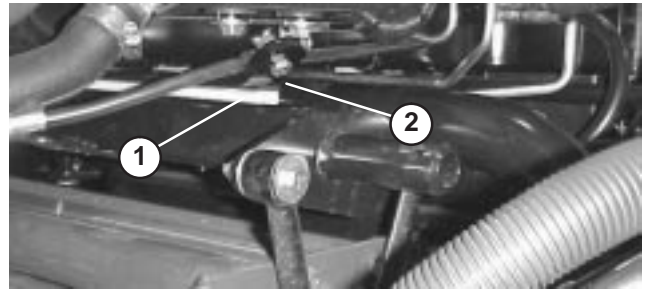
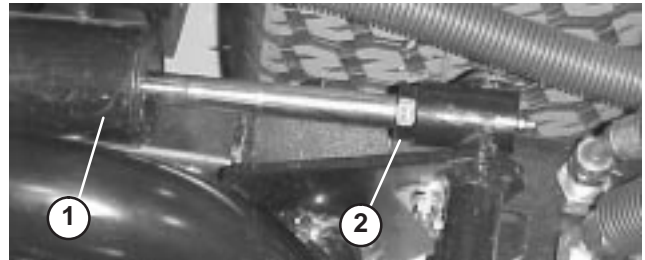

Figure 27
Figure 28
3. Start engine, raise lift arms and check to make sure clearance between wear strap on top of rear cutting unit wear bar and bumper strap is .020” – .100” (Fig. 27). If clearance is not in this range, adjust rear cylinder to attain clearance. To adjust cylinder, lower the cutting units and back off the jam nut on the cylinder (Fig. 28). Grasp cylinder rod close to the nut with a pliers and rag and rotate the rod. Raise the cutting units and check clearance. Repeat procedure if required. Tighten clevis jam nut.